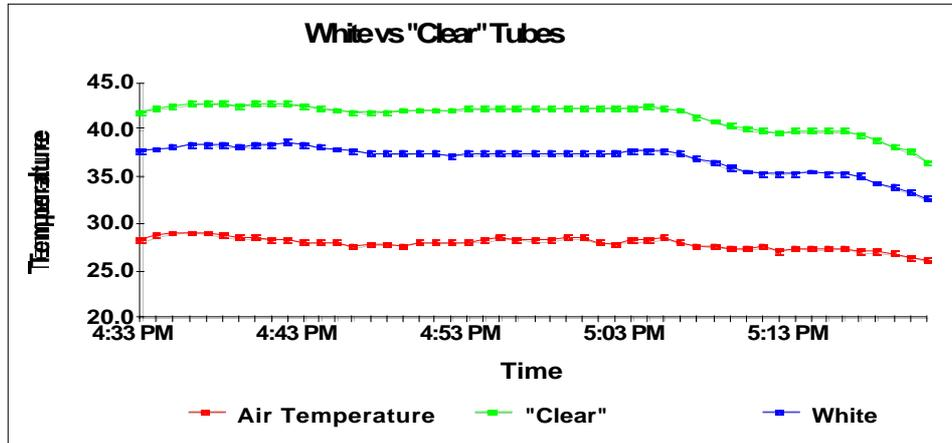

Fig 2. The temperature rise of white tubes is about 3°C less than for transparent ones.
- White coloured vineguards were cooler than "clear" ones (about 3°C). (Fig 2)